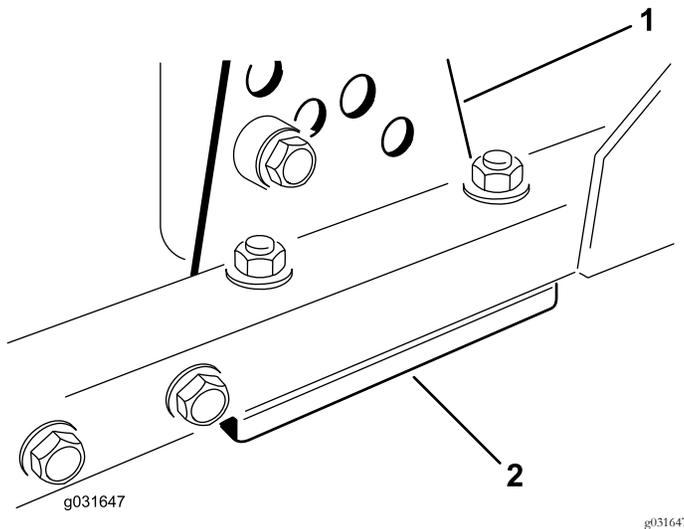

Figure 66
1. Remove the height-of-cut bracket (front, left, or right) from the deck frame (Figure 66).
2. Adjust the 1.5 mm (0.06 inch) shims and/or 0.7 mm (0.03 inch) shim between the deck frame and bracket to achieve the desired height of cut (Figure 66).
3. Install the height-of-cut bracket to the deck frame with the remaining shims assembled below the height-of-cut bracket (Figure 66).